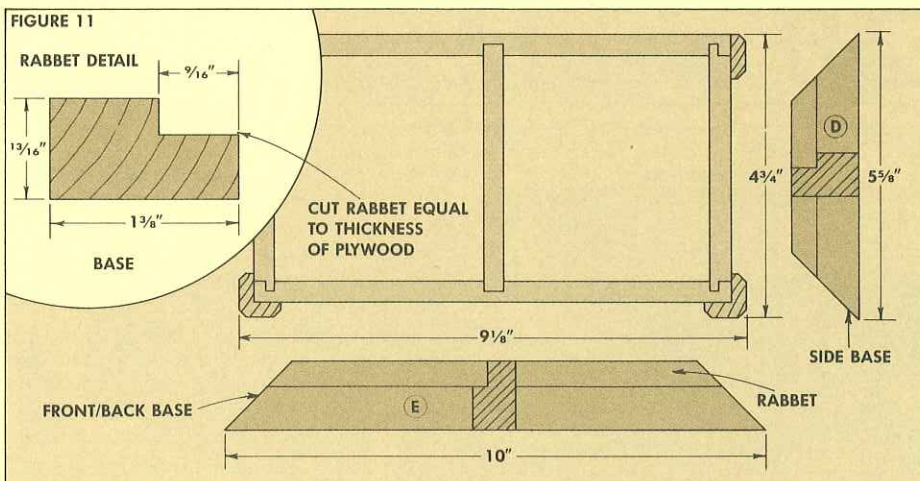

FIGURE 12
**MOLDED EDGE.** The last step on the base is to rout the outside edges with a  $\frac{5}{32}$ " ogee bit (on the router table). The height of the bit is set so it leaves a  $\frac{1}{16}$ " shoulder on its final pass, see Fig. 12.